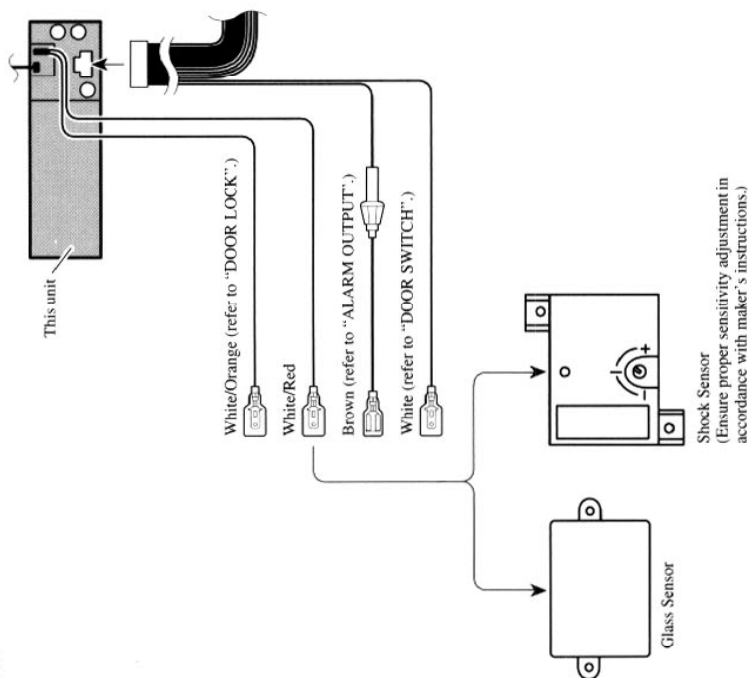

Fig. 31
- White/Red (ALARM SENSOR)** (Fig. 31)